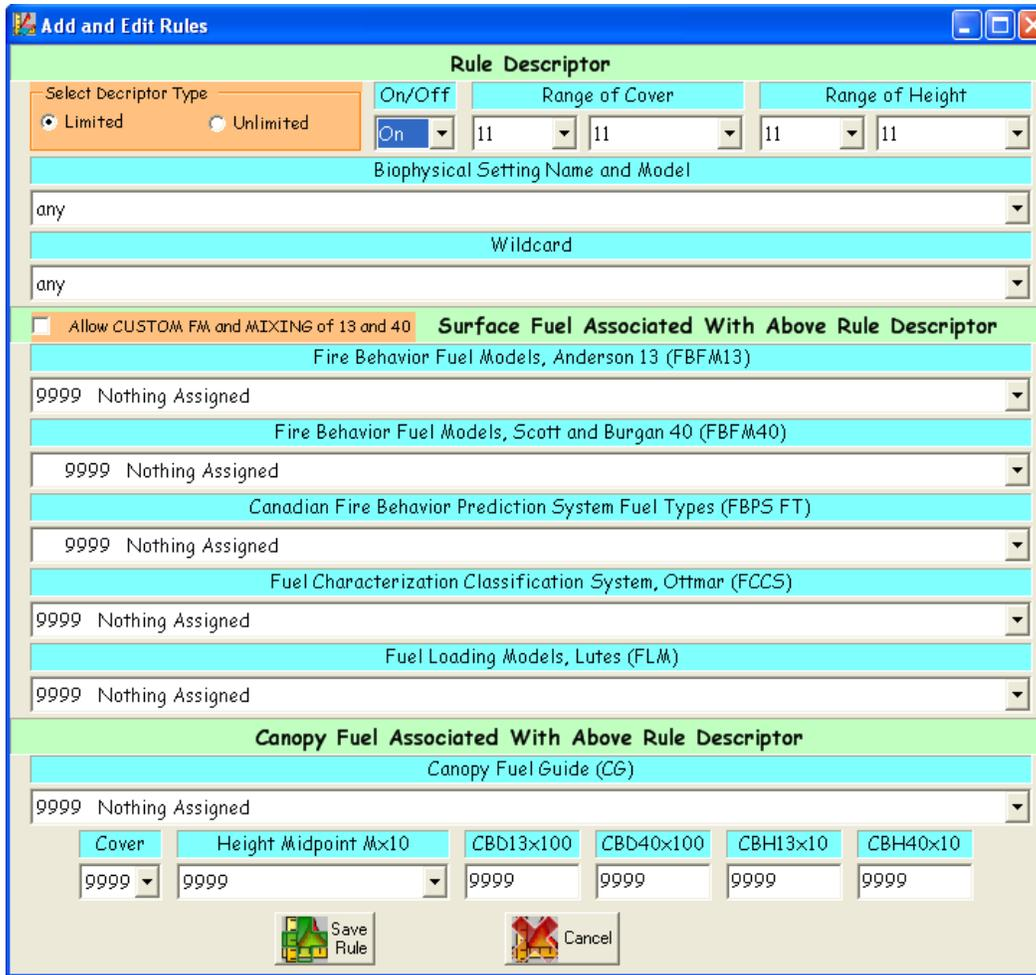

Figure 7-27. Add and Edit Rules dialog box.
The **Add and Edit Rules** dialog box opens as shown (fig. 7-27).
- To use the Add Rule option, you will need to complete the required input for the **Rule Descriptor**, **Surface Fuel Associated with Above Rule Descriptor**, and finally the **Canopy Fuel Associated with Above Rule Descriptor** boxes (fig. 7-27).
The **Rule Descriptor** box occupies the top portion of the **Add and Edit Rules** dialog box (fig. 7-27). Components are described as follows.
The **Add and Edit Rules** dialog box opens (fig. 7-27). Components of the Add and Edit Rule dialog box are the same as those described for the Add Rule option. They are repeated here for convenience. Components of the **Add and Edit Rules** dialog box and the steps required to use the Edit Rule option, are discussed below.
- To use the Edit Rule option, you will need to complete the required input for the **Rule Descriptor**, **Surface Fuel Associated with Above Rule Descriptor**, and finally the **Canopy Fuel Associated with Above Rule Descriptor** boxes (fig. 7-27).